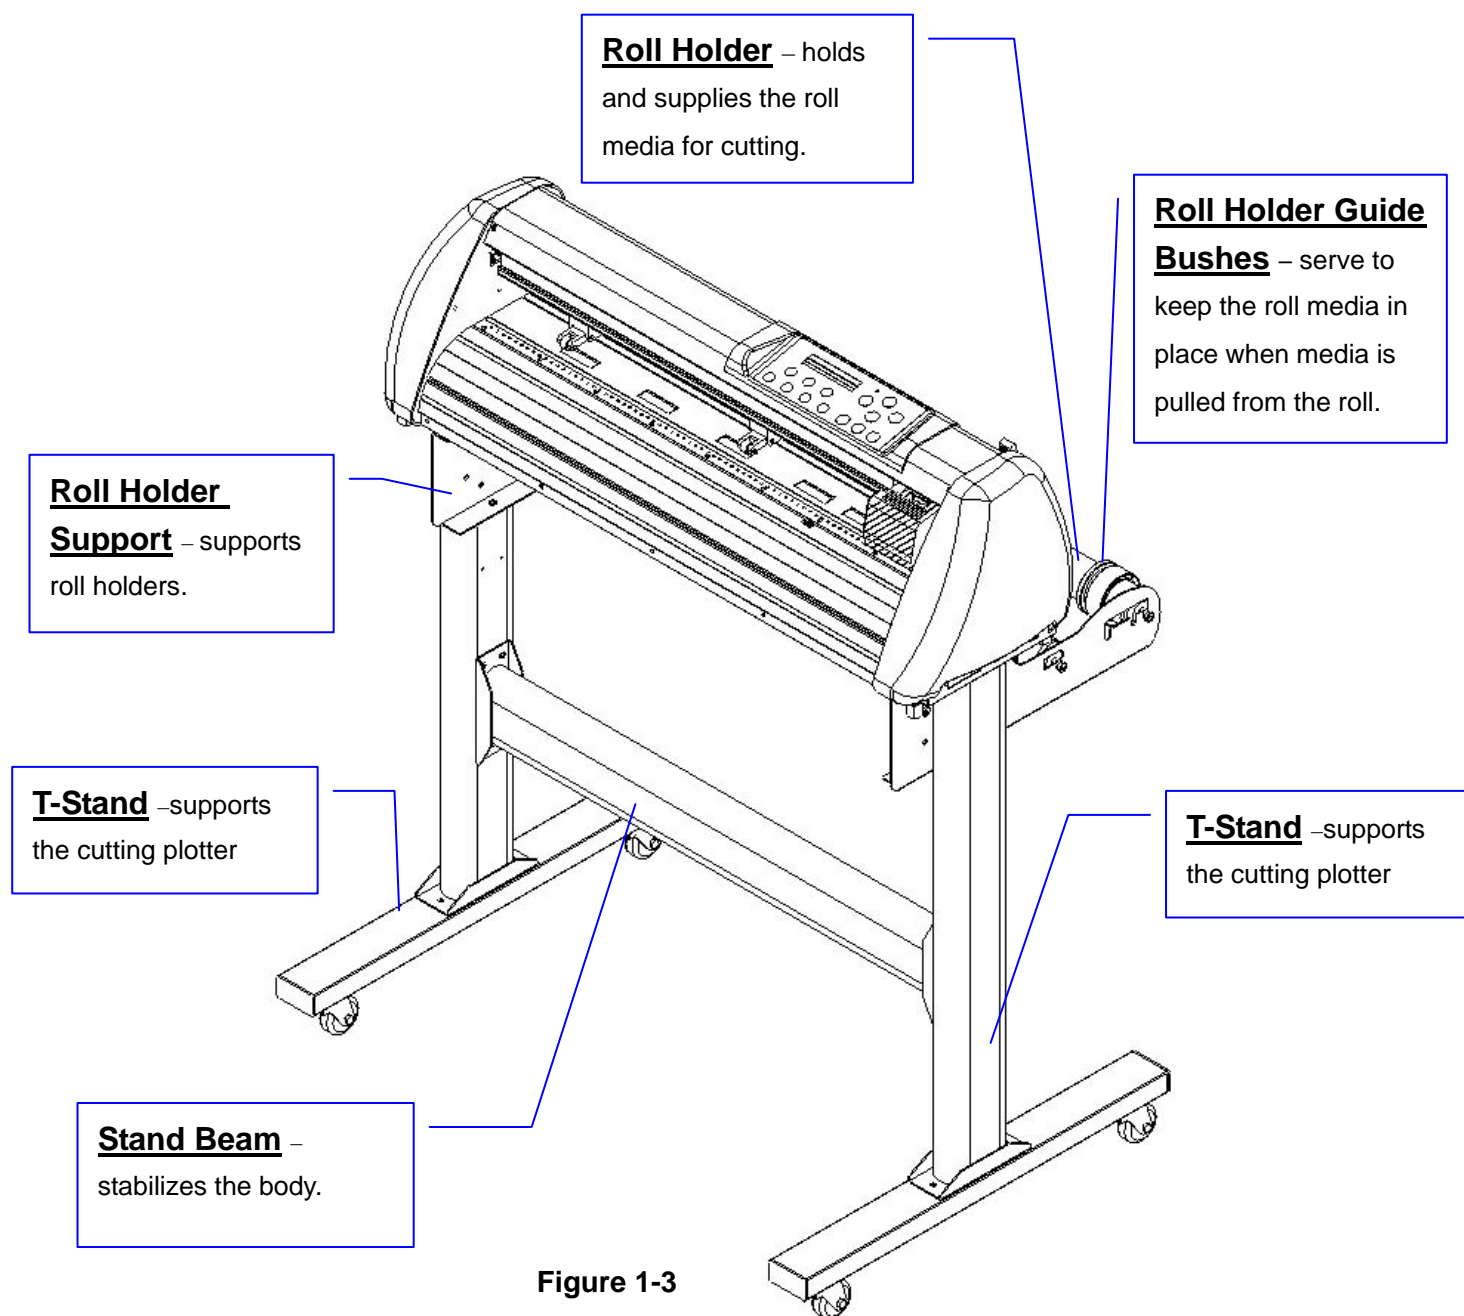

Figure 1-2
1.4.2 The Back View (Figure 1-2)